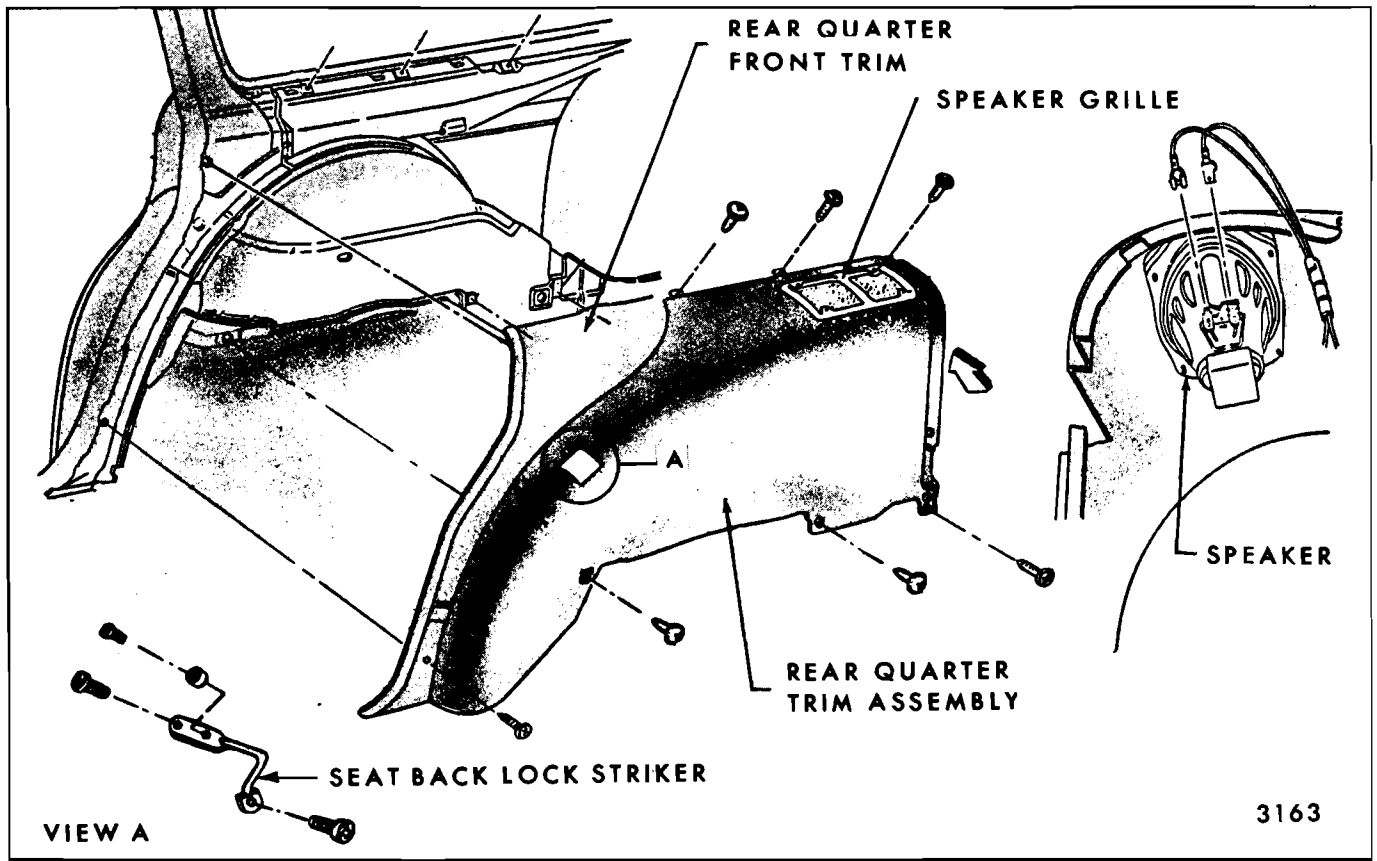

Fig. 14-33—Rear Quarter Trim Panel (Right side) - "B" Station Wagon
4. Remove seat back lock striker as shown in Fig. 14-33.
5. Remove all screws securing trim panel to rear quarter inner panel (Fig. 14-33).
6. With a suitable flat-bladed tool, carefully disengage trim retainers from rear quarter inner panel along leading edge of rear body lock pillar (on front edge of rear quarter front trim assembly). (Fig. 14-33)